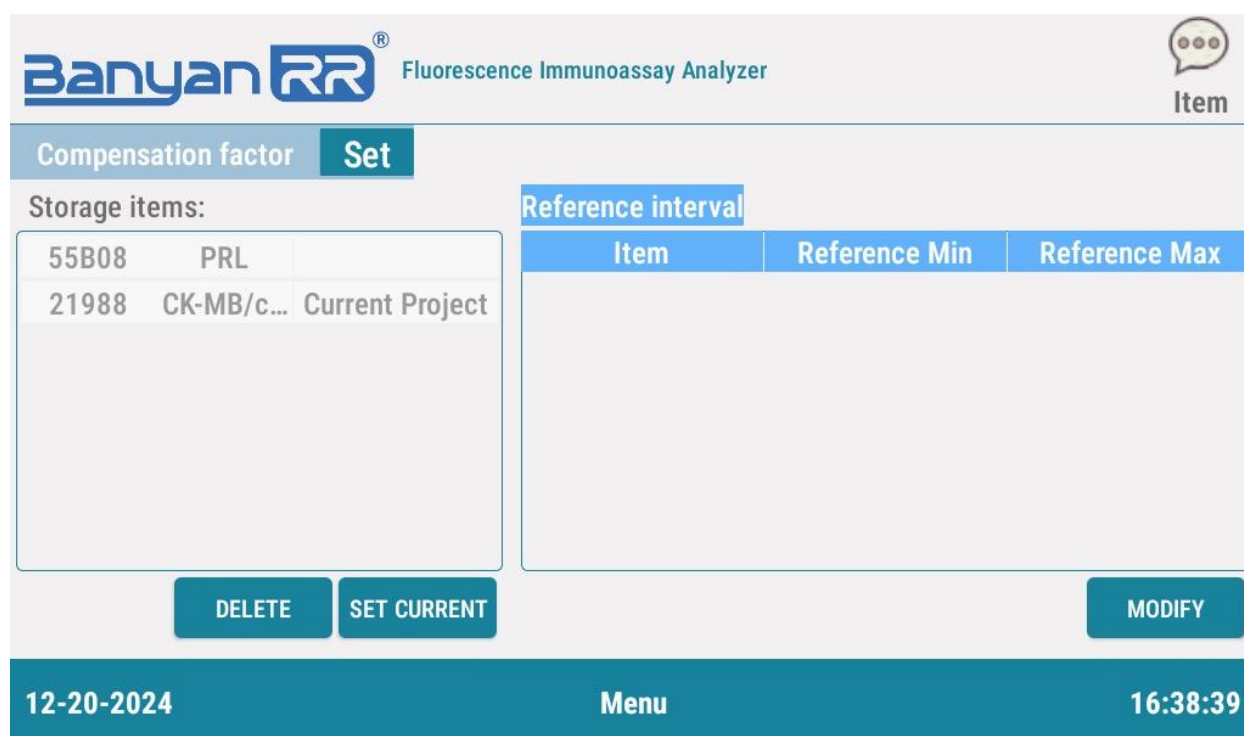

Fig. 4.6
1.As shown in Fig. 4.6, the item list can be viewed in the item settings, and the item reference value can be set;